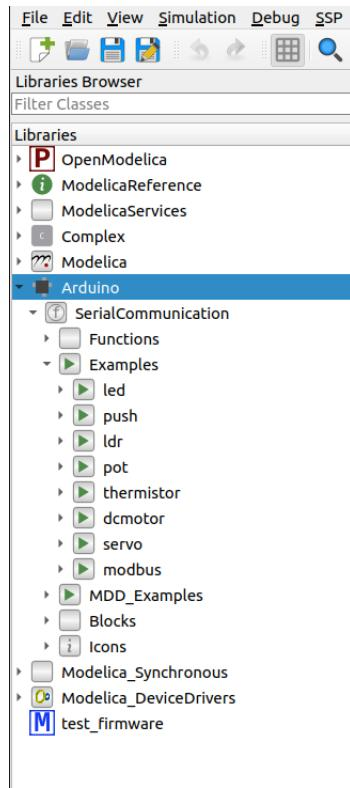

Figure 3.15: Examples provided in OpenModelica-Arduino toolbox
5. Now, we will locate the models for running the experiments in the upcoming chapters. Under Libraries Browser, click on the arrow before Arduino to see the contents inside this package. Next go to SerialCommunication -> Examples. Under Examples, you will find the list of experiments like led, push, etc., as shown in Fig. 3.15.